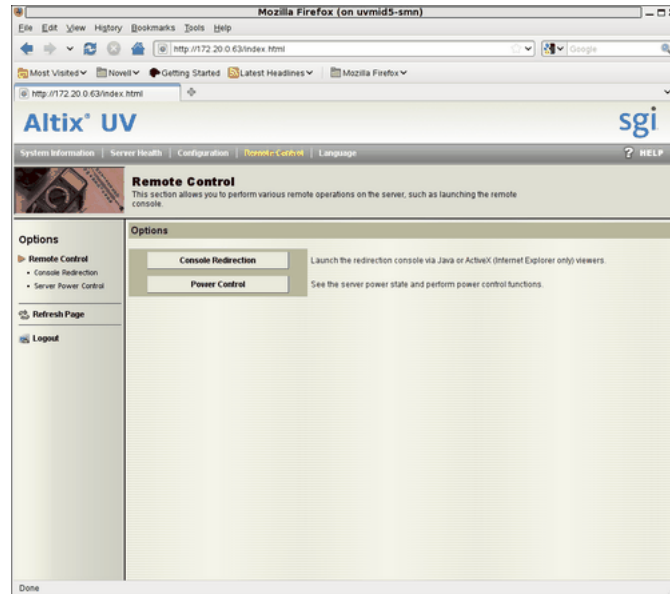

Figure 3-3 BMC Remote Control Screen
6. The **Remote Control** screen appears, as shown in Figure 3-3 on page 45. Click on the **Console Redirection** button.